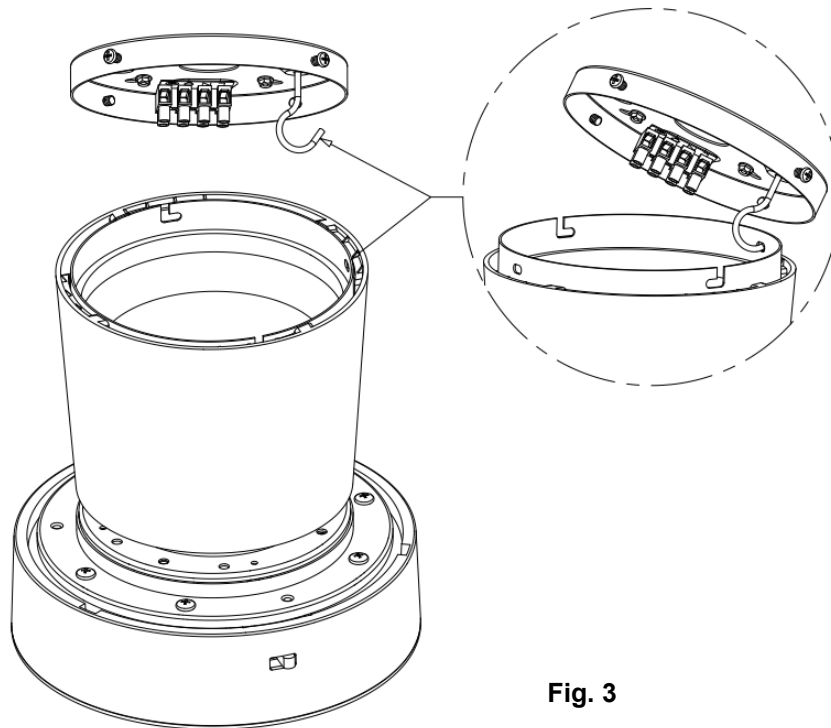

Fig. 3
- Lift the fan assembly up to the mounting bracket. Hang the fan assembly onto the J-hook of the mounting bracket. (Fig.3)